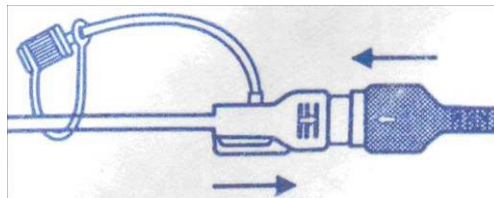

Figure 7-7 Connect catheter to pressure cable
- 2) Connect the IUPC to the IUP cable. (See figure 7-7)